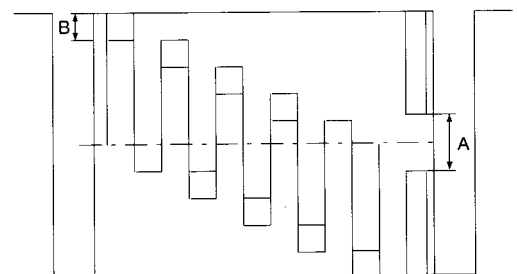

Fig. 6 1-H
- ⑤ Vary VR501 so that the amplitude A may be minimized as shown in fig.6.
- ⑥ Vary L502 so that the amplitude B may be minimized as shown in fig.6.
- ① Supply the digital pattern(VHF-H, 60dB ± 1dB) signal to the TV.
- ② Set the color, contrast, brightness to normal using the remote control key(→, ←).
- ③ Connect the digital multimeter to J61(TP2), and its ground to ground of tuner.
- ④ Vary VR101 so that the voltage of RF AGC may be 6.0V ± 0.1V dc.
- ① Supply the digital pattern (VHF-H, 60dB ± 1dB) signal to the TV.
- ③ Short J5 and J6.
- ④ Vary VR401 so that the screen may be centralized.